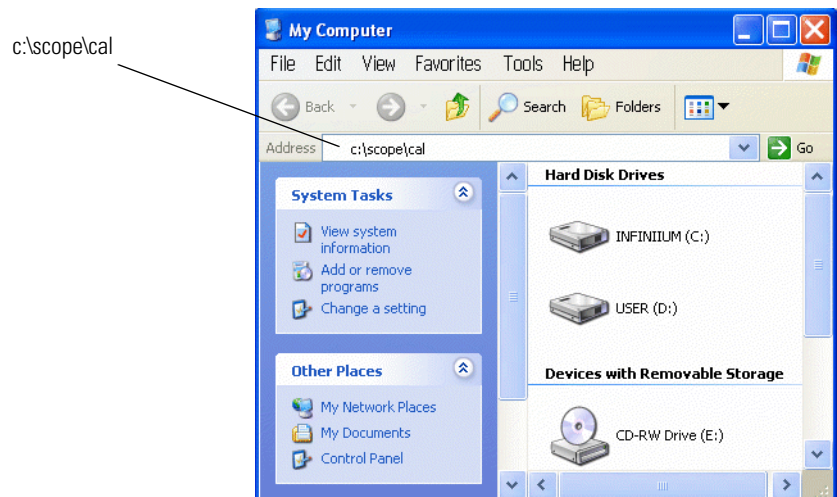

Figure 1-25. Locating the file framecal.dat
e Enter the path, `c:\scope\cal`, in the address line as shown in Figure 1-25 on page 33. Then, press **Enter** to locate the file, `framecal.dat`.
- d Copy this file and paste the file into the folder, c:\scope\cal. Locate the folder by entering the path, c:\scope\cal, in My Computer as shown in Figure 1-25. Click **OK** to overwrite the current file.